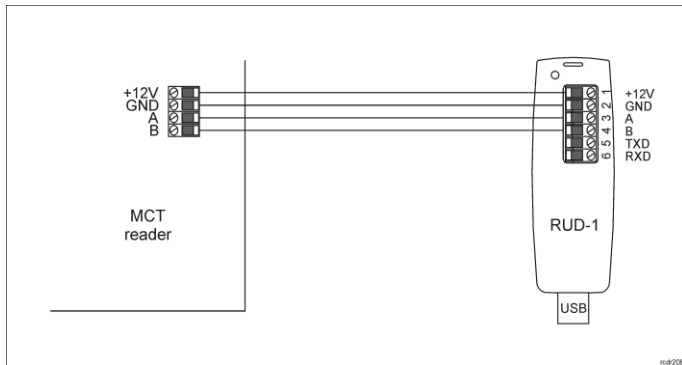

Fig. 1 Connection of MCT reader to RUD-1 interface
The configuration requires connection of reader to computer with RUD-1 interface (fig. 1) and starting RogerVDM software.
1. Connect the reader to RUD-1 interface (fig. 1) and connect the RUD-1 to computer's USB port.
The update requires connection of reader to computer with RUD-1 interface (fig. 1) and starting RogerISP software. The latest firmware file is available at [www.roger.pl](http://www.roger.pl).